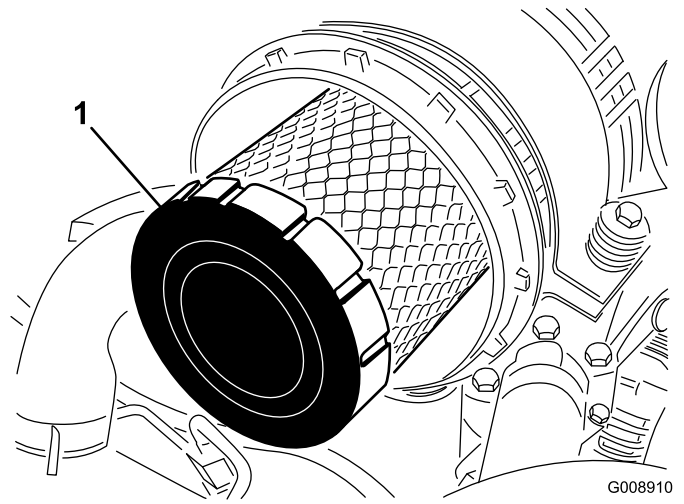

**Figure 59**
1. Release the latches that secure the air cleaner cover to the air cleaner body (Figure 59).